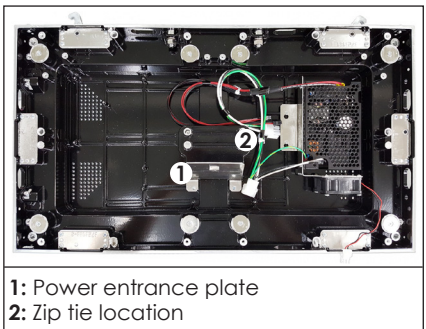

Figure 22: Panel
- 2. Select a panel for field power connection. Use a Phillips screwdriver to remove the hardware in the power entrance plate and then remove the plate. Refer to **Figure 22**. When installing the panel onto the display, bring the field SJOOW flexible cable through the opening in the panel.
- 4. Cut the zip tie at the location in **Figure 22**.
2. Select a panel for field power connection. Use a Phillips screwdriver to remove the hardware in the power entrance plate and then remove the plate. Refer to **Figure 22**. When installing the panel onto the display, bring the field power cable through the opening in the panel.
3. Cut the zip tie at the location in **Figure 22**.